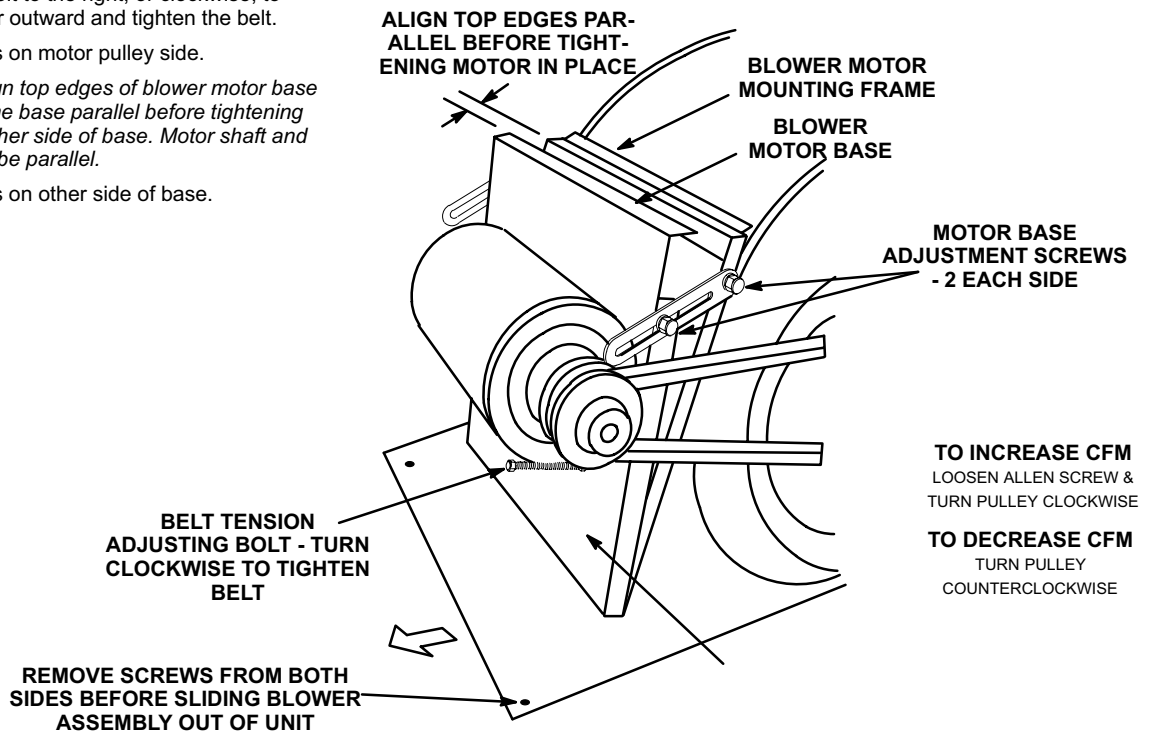

FIGURE 9
The blower assembly is secured to a sliding base which allows the entire assembly to be pulled out of the unit. See figure 9.
- 5- The blower RPM can be adjusted at the motor pulley. Loosen Allen screw and turn adjustable pulley clockwise to increase CFM. Turn counterclockwise to decrease CFM. See figure 9.
- 1- Loosen four bolts securing motor base to mounting frame. See figure 9.